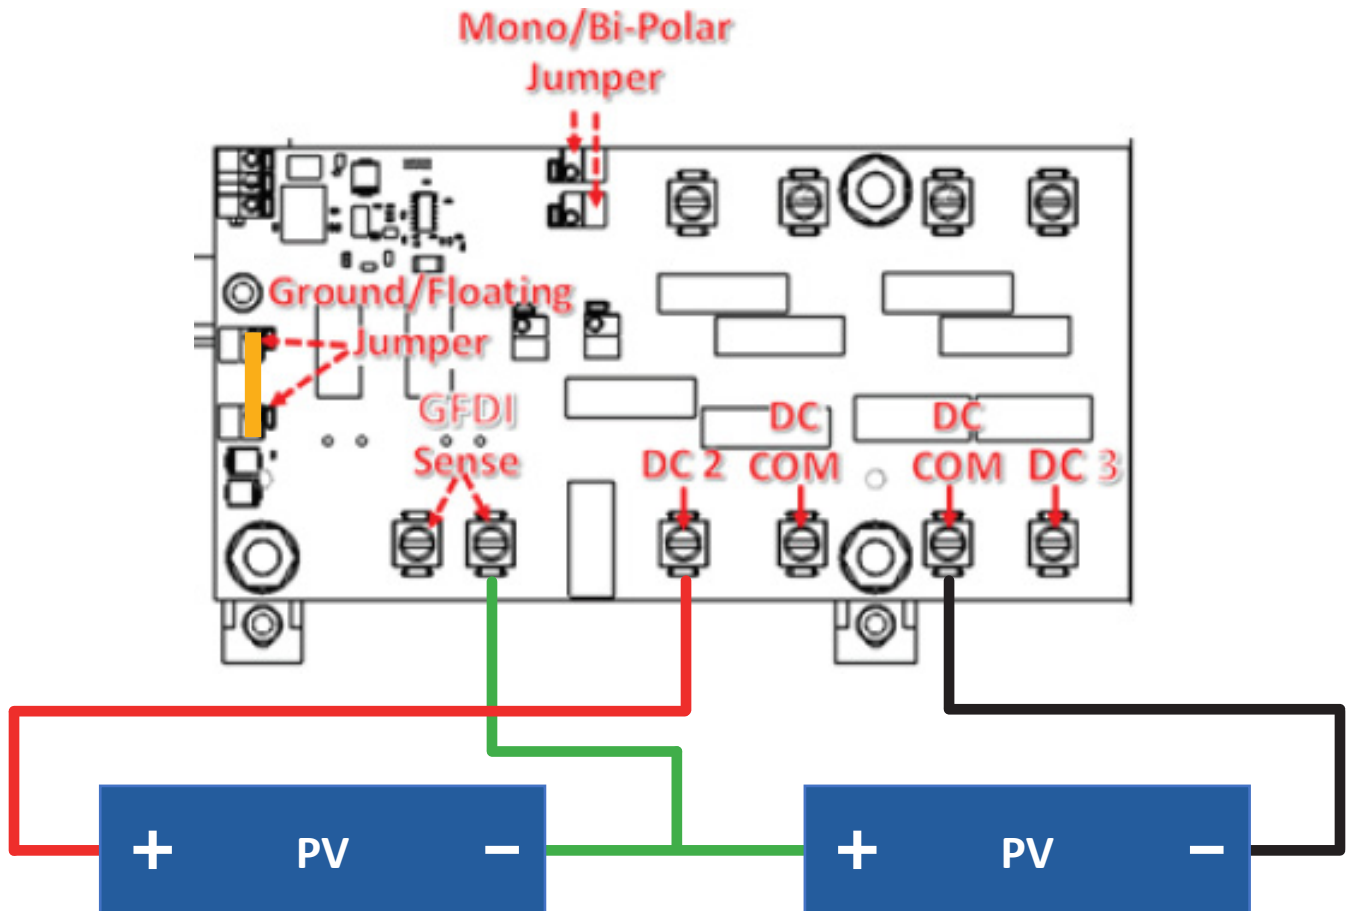

Figure 4. 3-Wire Bipolar
4. 3-Wire ground-referenced Bipolar - Figure 4